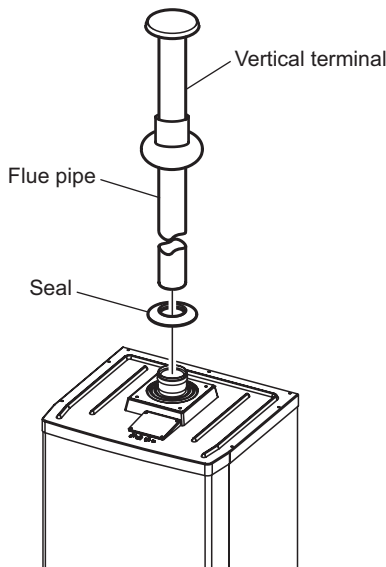

Fig. 4.5
**Vertical kit - see Fig. 4.5 and 4.6, and refer to Section 3.4.**
Fig. 4.5 shows the vertical flue kit parts.